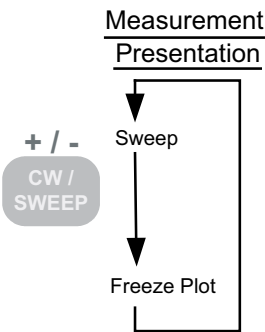
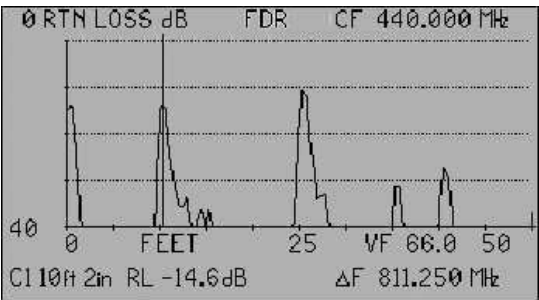

Figure 5-4
Figure 5-5
**CW/SWEEP Key** – In the Frequency Domain Reflectometer’s Measurement Screen, this key controls the Measurement Presentation by cycling between Sweep and Freeze Plots. See figure 5-4. The selected Measurement Presentation can be identified by looking at the Measurement Screen. See figures 5-5 and 5-6.